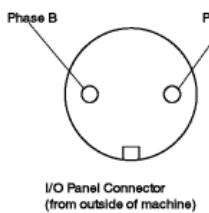

Figure 7. I/O Panel Connector
- Connect an ohmmeter to the twinaxial cable and check for the resistance as shown in Table 1. (See Figure 7.)
3. Connect the ohmmeter to the twinaxial connector of the cable as shown in Table 2. (See Figure 7.) If any measurement is less than 5000 ohms, record the ohmmeter connection that has the low resistance.
- || ° Connect the ohmmeter to the twinaxial cable you disconnected | from socket 2 and check for the resistances as shown in | Table 3. (See Figure 7.)
- Connect the ohmmeter to the twinaxial cable you disconnected from socket 2 and check for the resistances as shown in Table 4. (See Figure 7.)